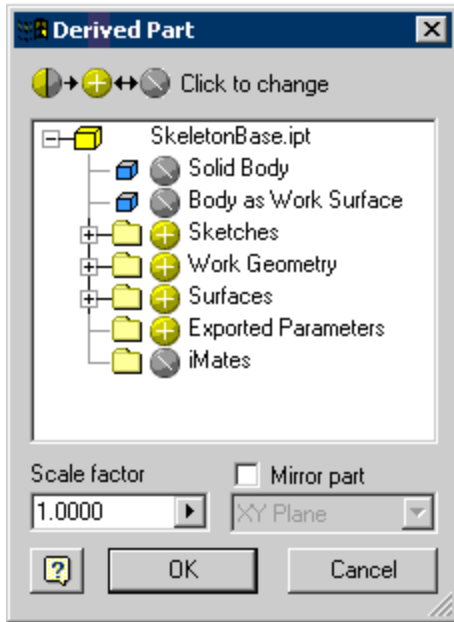

Figure 5: Derived Part dialog box.
5. From the Features panel bar, click the Derived Component tool. Browse to the folder containing the SkeletonBase.ipt file and open it. The Derived Part dialog box opens (see Figure 5).